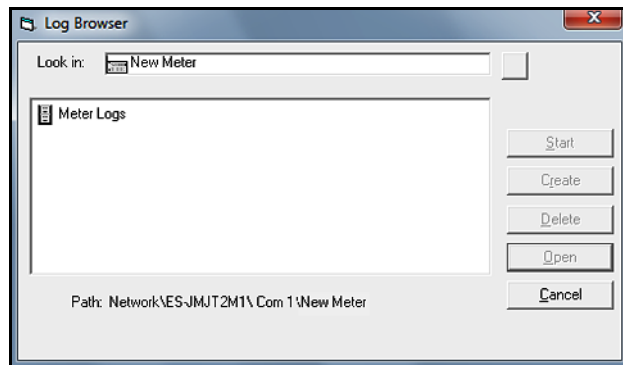

Figure 74: Log Type Selection
- c. Double-click *meter name* to move to the network level shown in Figure 74 below